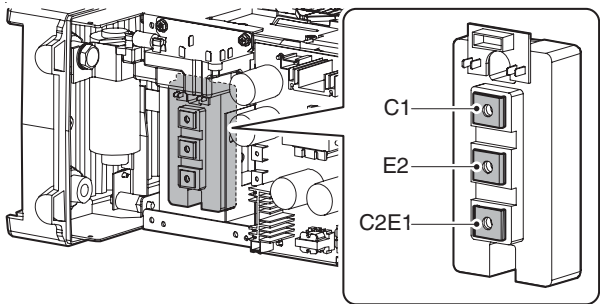

Figure 6-17: Tester checkpoints in the Q13
3. Refer to Table 6-8 and Figure 6-17 for the checkpoints on Q13.